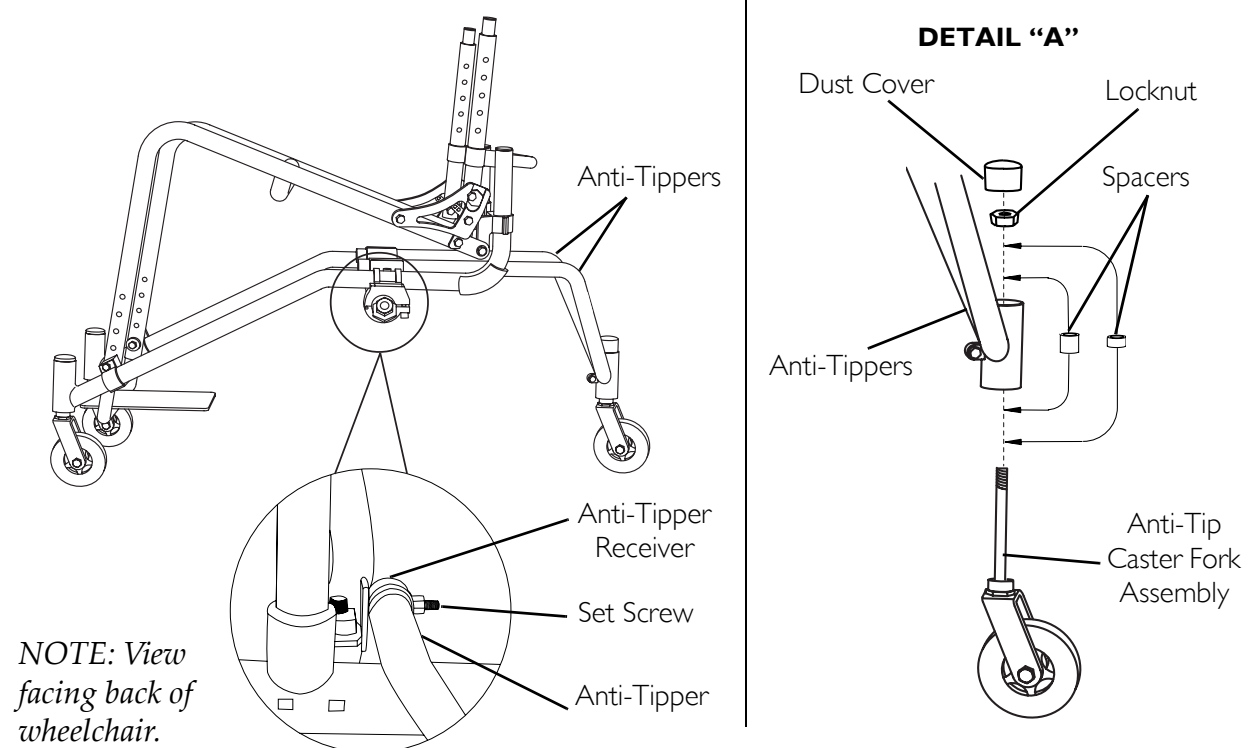

FIGURE 7.7 Swivel Anti-Tip Installation/Removal/Adjustment
NOTE: For this procedure, refer to FIGURE 7.7.
1. Loosen set screws on anti-tip receivers (FIGURE 7.7).
1. To adjust the height of the swivel anti-tip, remove dust cover and loosen set screw on swivel anti-tip caster assembly (FIGURE 7.7).
NOTE: For this procedure, refer to FIGURE 7.7 DETAIL A.